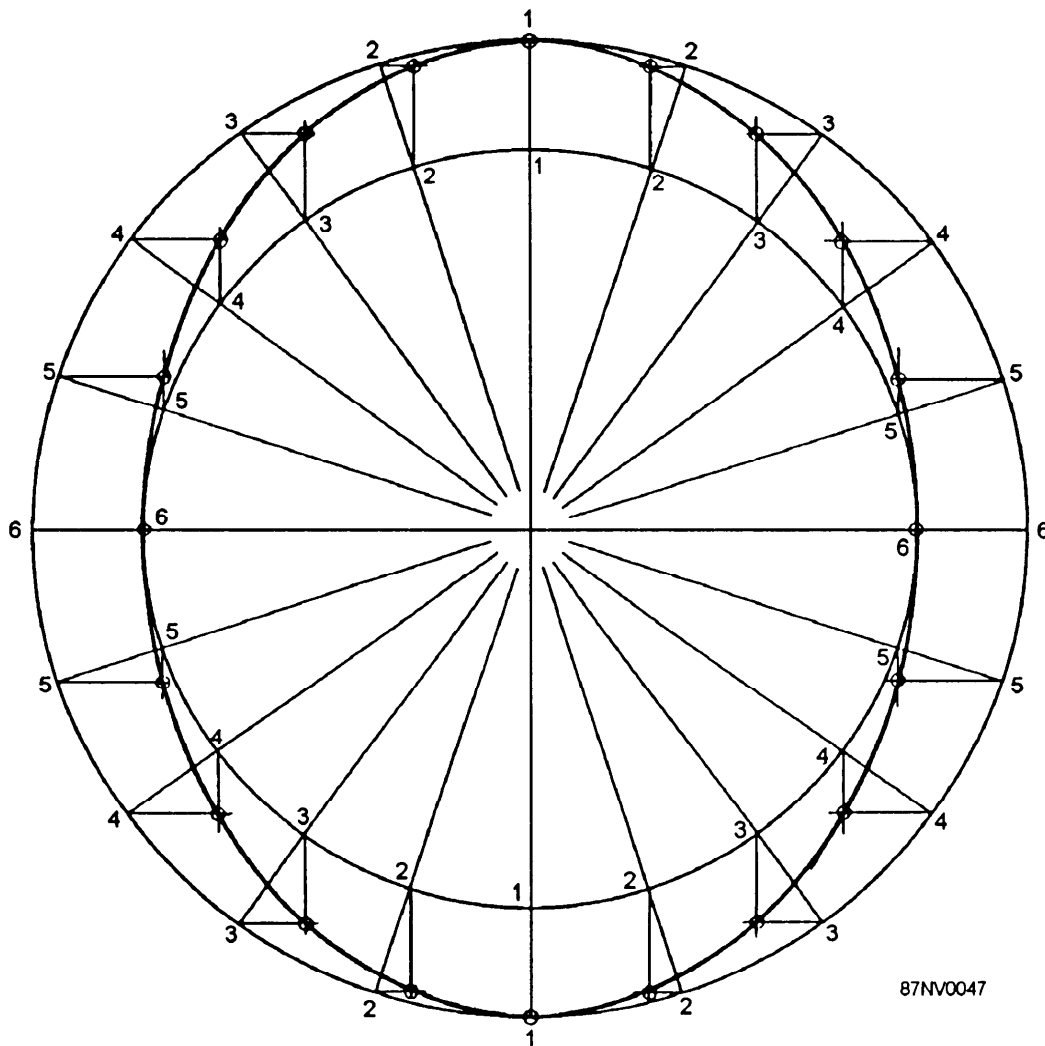

Figure 16-8.—Construction of an ellipse.
PROBLEM IV—Develop an ellipse with a vertical diameter of $6\frac{1}{4}$ inches and a horizontal diameter of $4\frac{7}{8}$ inches. (See fig. 16-8.)
4. Locate the equal-space division points on the outer circle circumference by radiating lines from the center point. These lines are to pass through the division points on the inner circle's circumference. Number these points as indicated in figure 16-8.